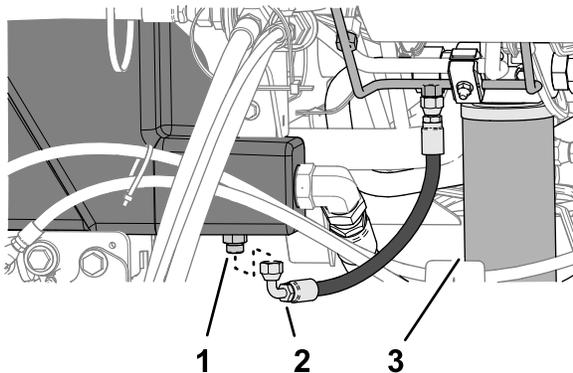

Figure 116
2. Place a large drain pan under the straight fitting (Figure 116) of the hydraulic tank; refer to Hydraulic Fluid Capacity \(page 64\).